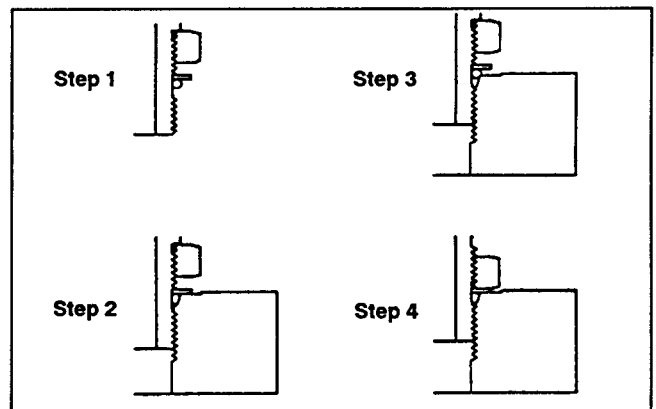

Figure 5
4. Turn back the jam nut as far as possible. Make sure the back up washer is not loose and is pushed up as far as possible (Fig. 5, Step 1).
5. Install the fitting into the port and tighten finger tight until the washer contacts the face of the port (Fig. 5, Step 2).
6. To put the fitting in the desired position, unscrew it by the required amount, but no more than one full turn (Fig. 5, Step 3).
7. Hold the fitting in the desired position with a wrench and turn the jam nut with another wrench to the correct flats from finger tight (F.F.F.T.) (Fig. 5, Step 4)